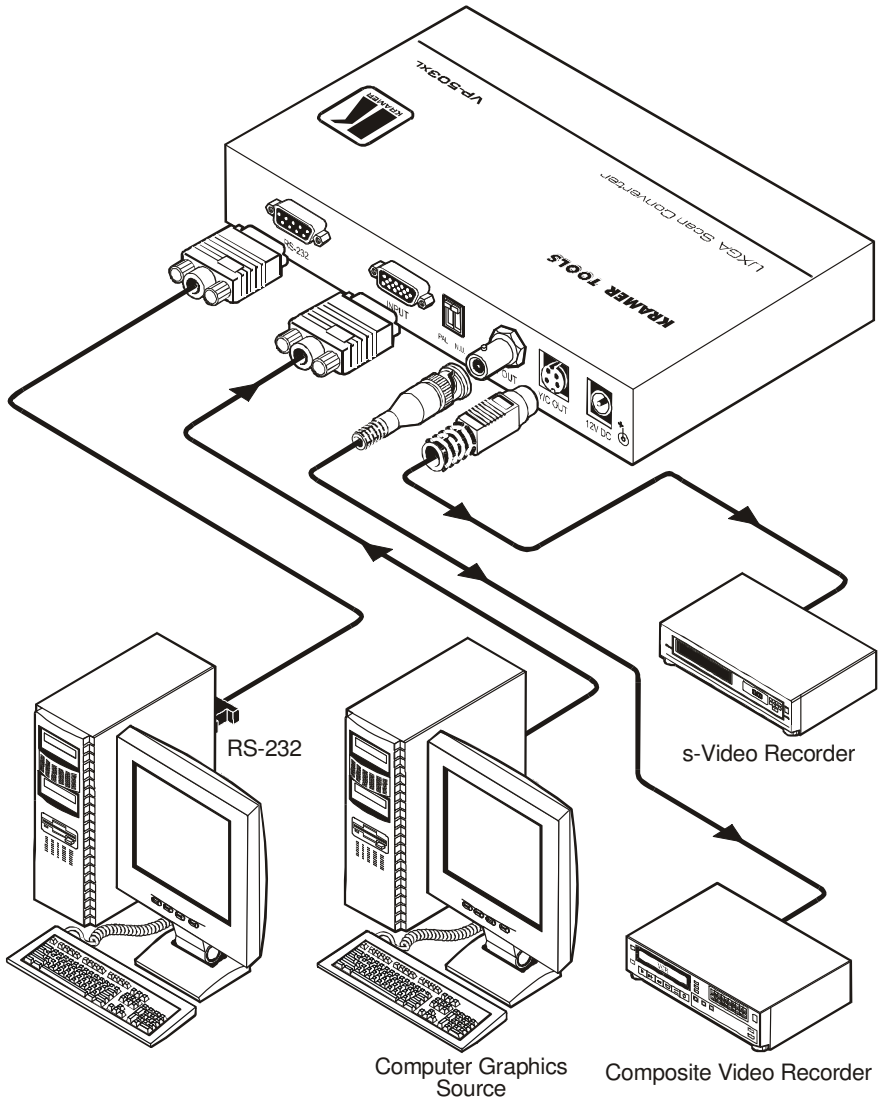

Figure 5: Connecting the VP-503xl
To connect your **VP-503xl** as the example in Figure 5 illustrates, do the following1:
5. Connect the 12V DC power adapter to the power socket and connect the adapter to the mains electricity (not shown in Figure 5).